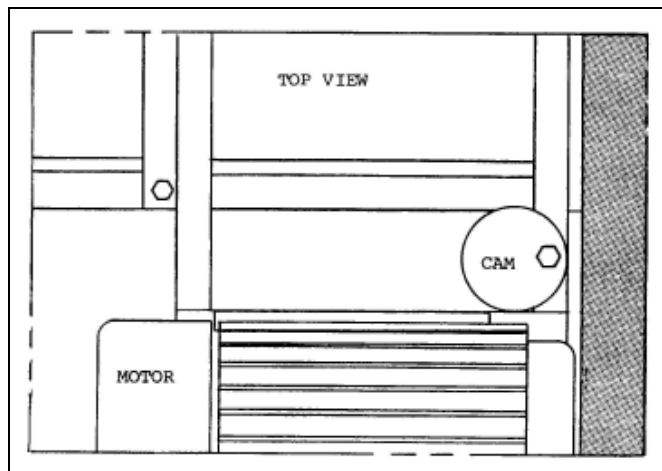
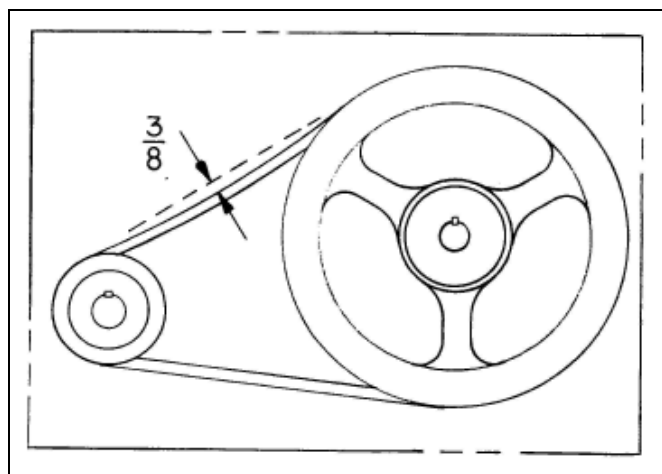

Figure 7A
Figure 7B
5. **Belt Tension:** The BX-48 matched V-belts driving from the heavy-duty motor to the top drive shaft should be inspected after each bin of grain is dried. The belt tension is adjusted by loosening the heavy-duty motor and turning the cam *(See Figure 7A on Page 72)* until the proper belt tension is achieved which is 3/8" deflection at 7 pounds of pressure. *(See Figure 7B on Page 72.)* The other matched V-belts have a spring-loaded clutch idler so proper tension is maintained at all times. Checking for proper belt alignment and proper clutch idler operation is all that is necessary.